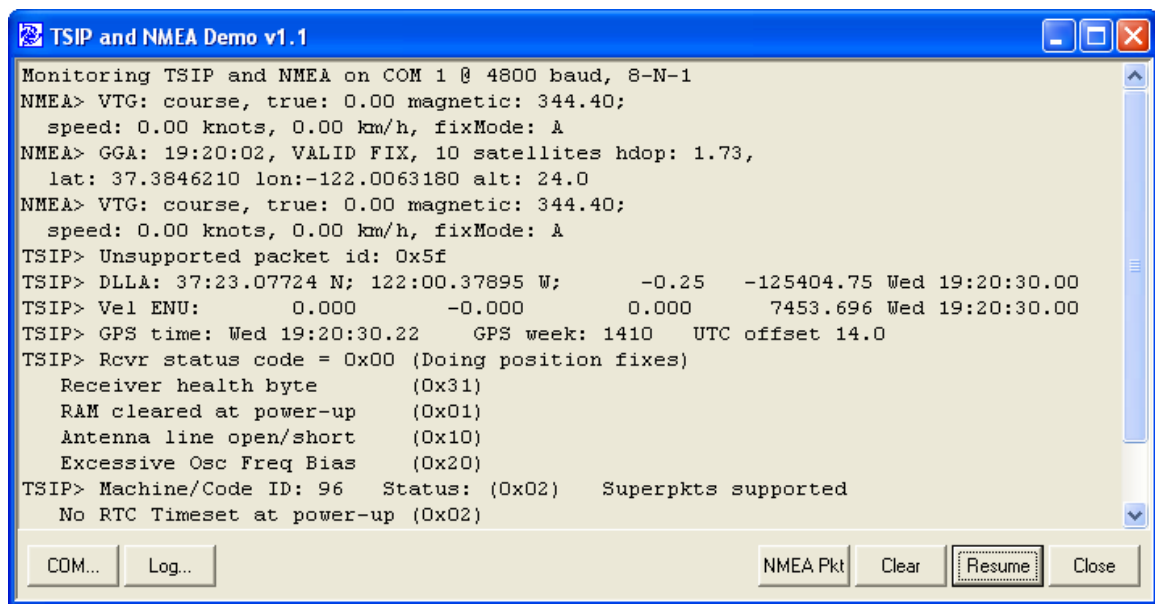

Figure 1. Demo application user interface
3. Click on the *Start* button. You should see periodic output similar to the one shown in Figure 1 above.